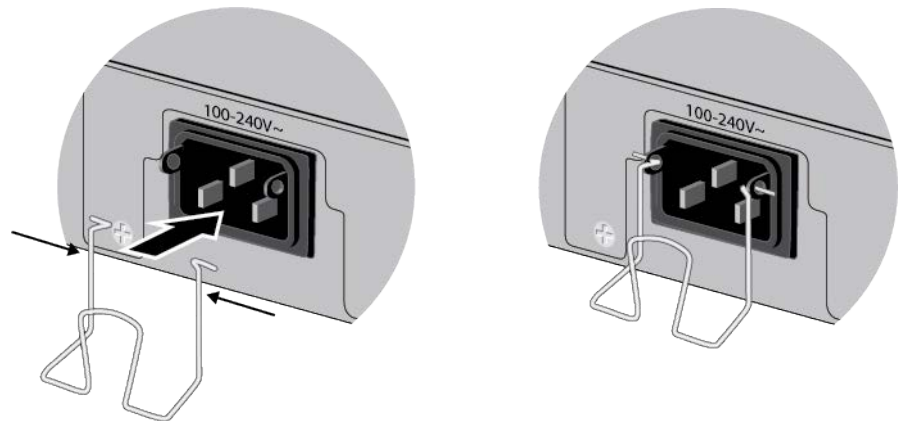

Figure 52. Installing the Power Cord Retaining Clip
1. Install the power cord retaining clip on the AC power connector on the rear panel of the router. Refer to Figure 52.